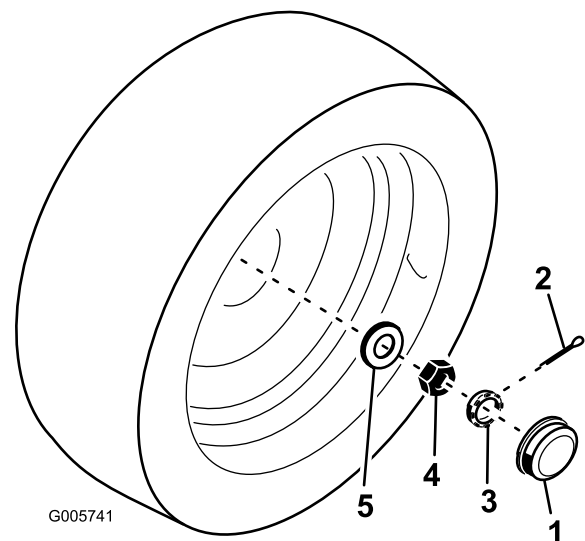

Figure 53
2. Remove dust cap from end of wheel spindle. Also remove cotter pin securing retainer (Figure 53).
3. Tighten the jam nut (Figure 53) to approximately 75–100 in-lbs using a hand wrench.